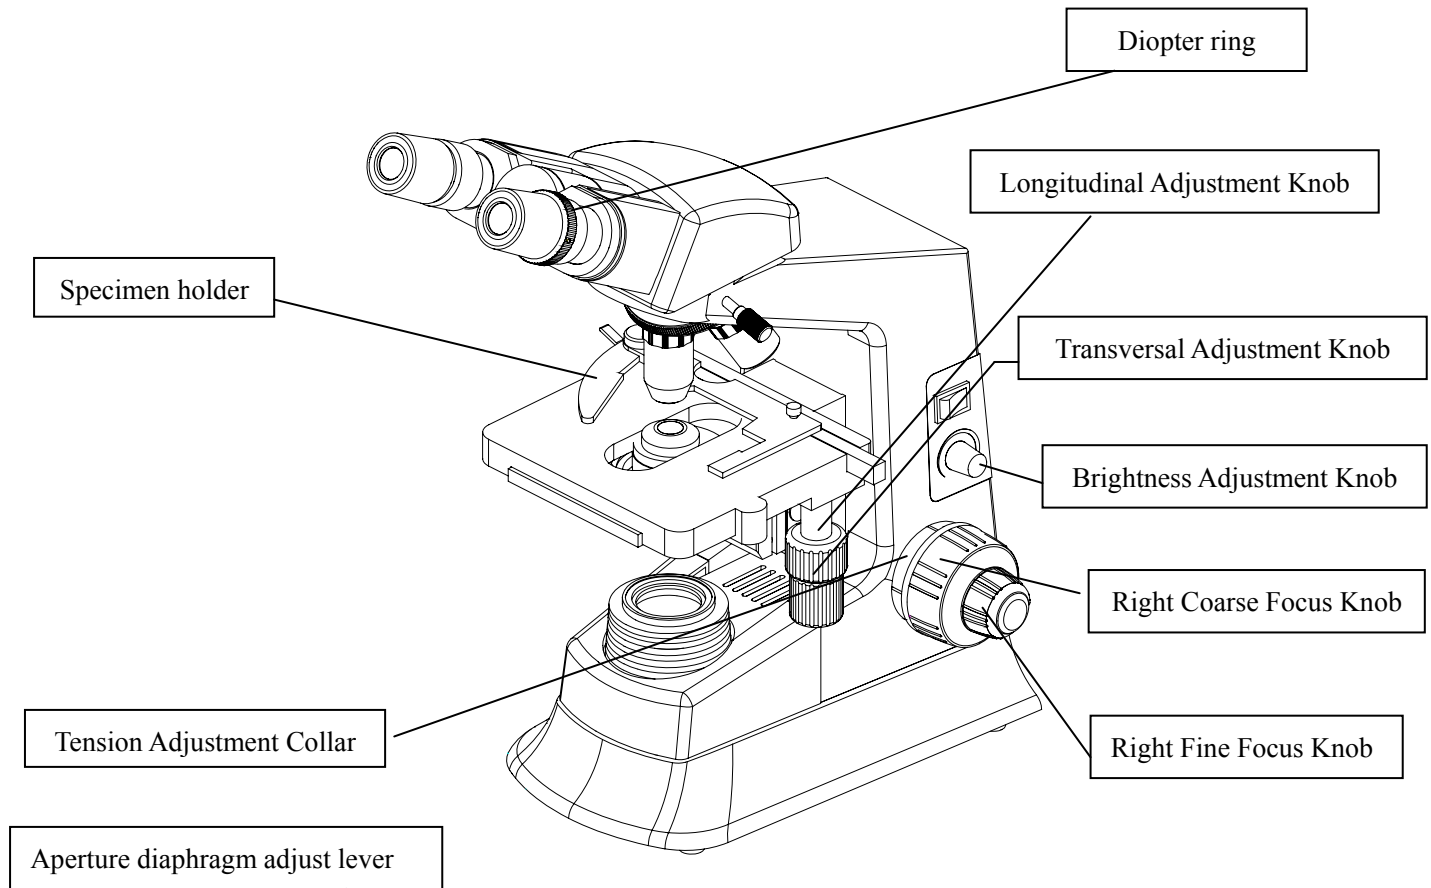

Fig.15
5.1 Assembly Diagram (Fig.15, 16, 17)